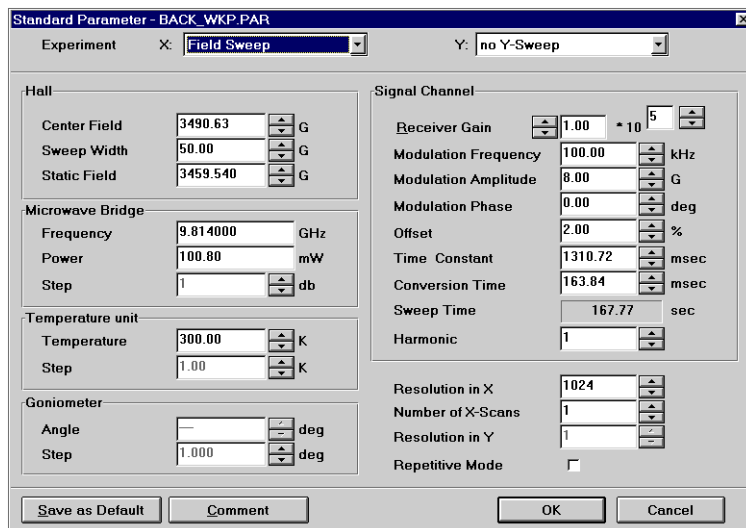

Figure 9-10 Set the parameters for weak pitch sample.
1. **Open the parameter option dialog box.** Set the parameters for Weak Pitch Measurement as indicated in Table 9-2. (See Figure 9-10.)